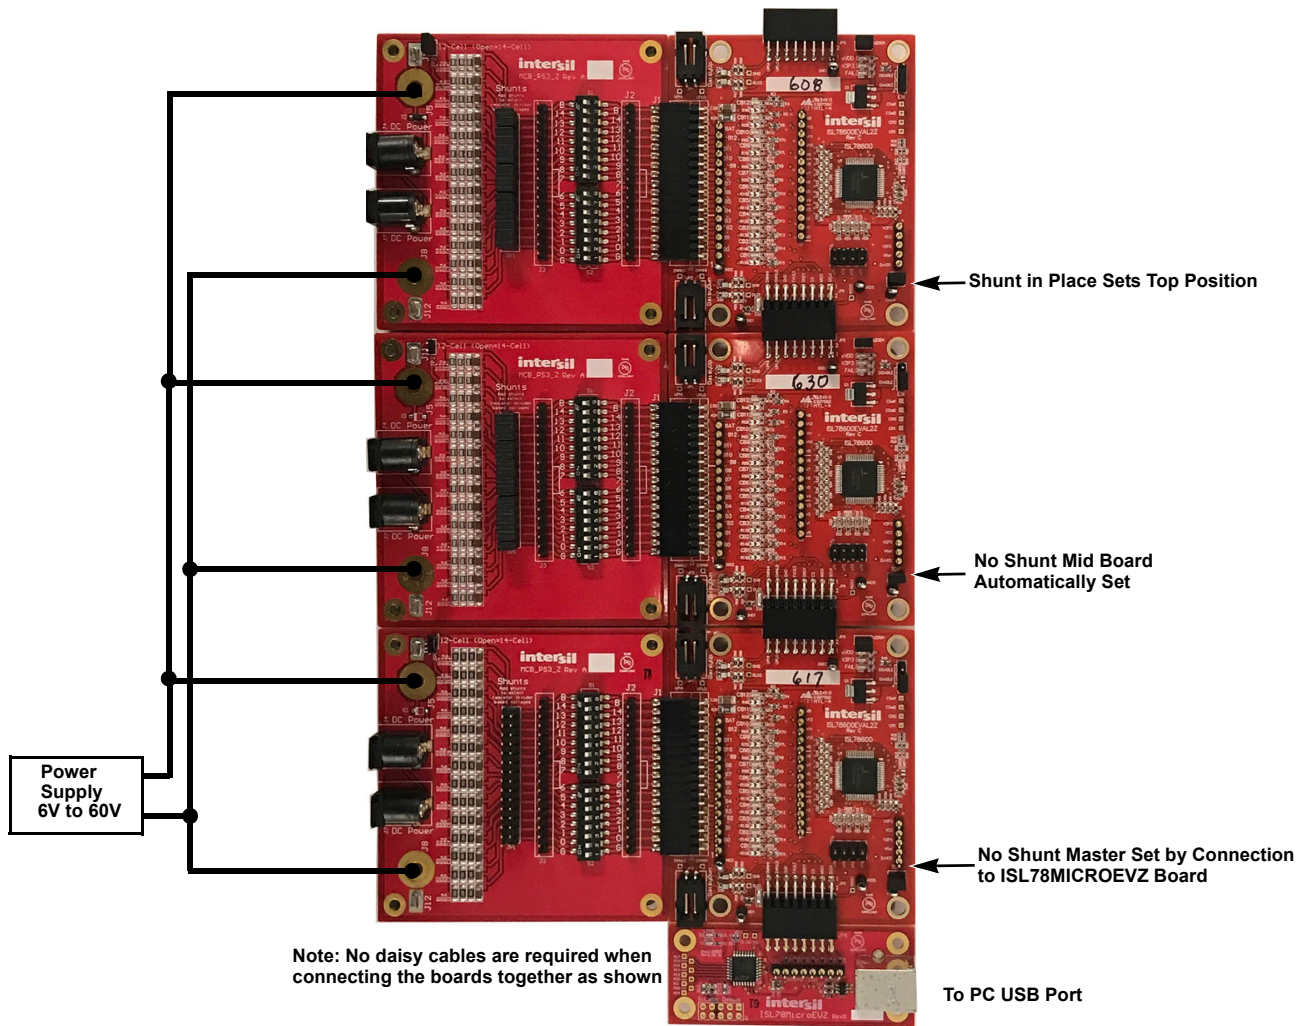

Figure 7. ISL78600EVKIT1Z Rev C in 36-Cell Direct Connect Daisy Chain Configuration
5. Connect the daisy chain. The daisy chain can be connected together directly or with cables, as shown in Figures 7 and 8 on page 10, or using a combination of direct and cable connections. When using twisted pair cables, connect the wires as shown in Table 1. (Note: The boards are configured to prevent both direct connection and twisted pair cable connection.)